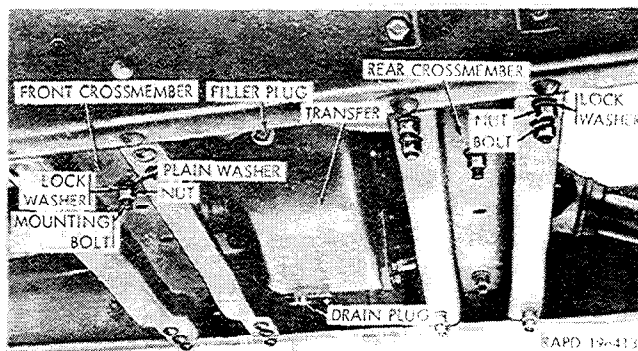

Figure 2-128. Transfer—bottom view.
(5) Remove the nuts, lockwashers, and plain washers from the four transfer mounting bolts (fig. 2-128).
(6) Support the transfer with jacks or a dolly and remove the eight nuts, lockwashers, and bolts that secure the rear cross member (fig. 2-128) to the gussets on the frame side rails. Remove the rear cross member.